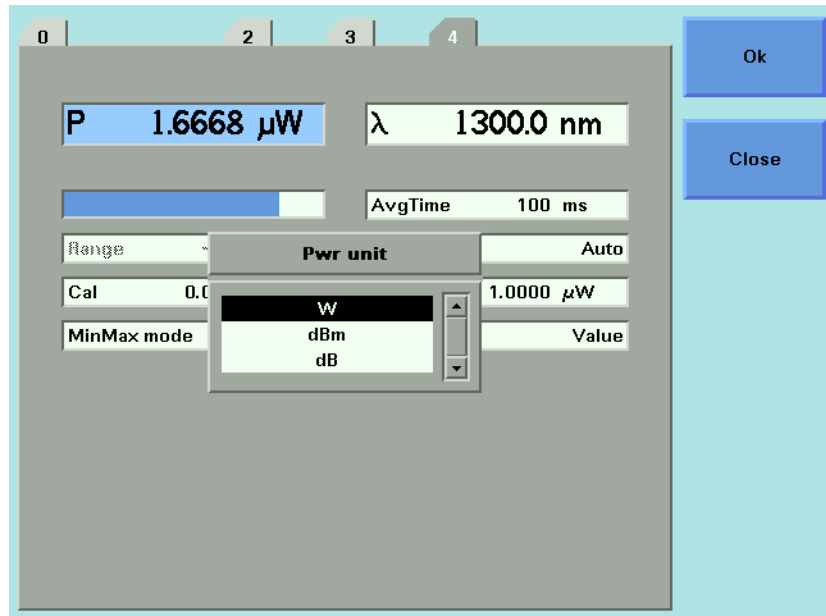

Figure 57 Selecting the Power Unit
- 1 Move to the [P] parameter and press the [Power Unit] softkey. You will see the menu in Figure 57 on page -102.